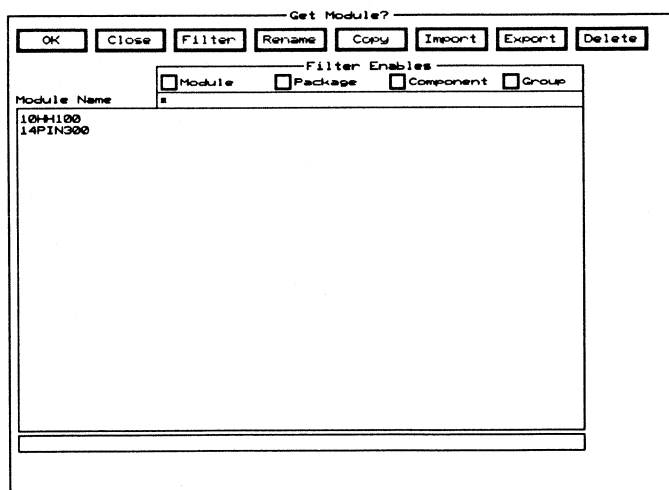

Figure 5-2. The Get Module dialog box.
2. Select **OK**. The **Get Module** dialog box displays (figure 5-2).